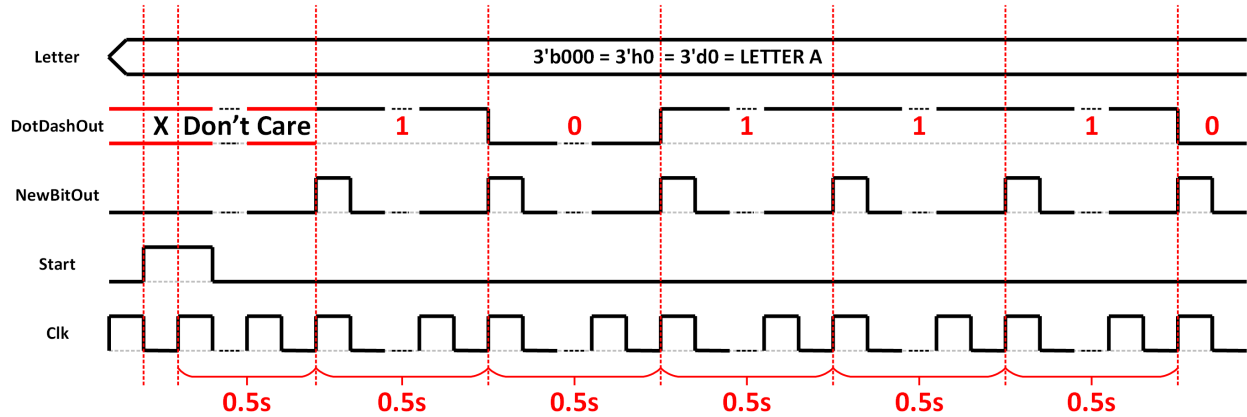

Figure 4: Expected timing diagram for first 6 bits of letter A outputted to DotDashOut
2. Each time a new bit is output from the shift register, you should set the **NewBitOut** signal to high for 1 cycle. This should also be done for the 1st bit of the sequence to indicate to the Automarker that the sequence has started and valid outputs are being provided. Refer to Figure 4 for more detailed timings. Note that after the **Start** is toggled, there is a 0.5s delay before **NewBitOut** is toggled and the **DotDashOut** becomes valid.